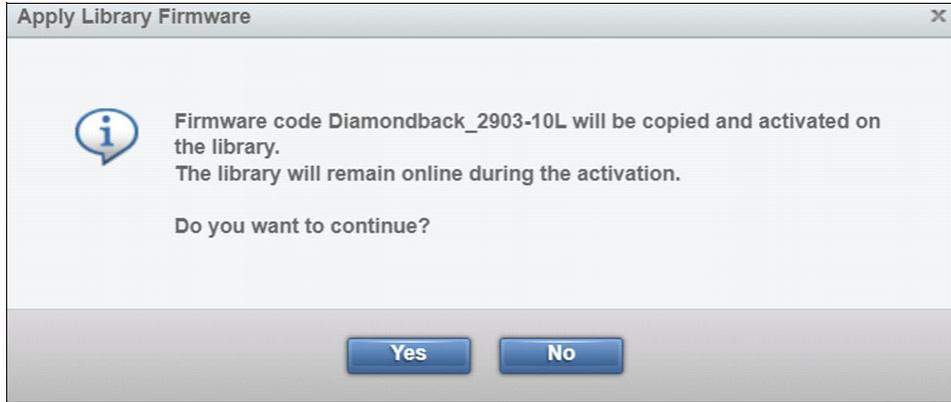

Figure 5-19 Firmware update confirmation
3. Once selected the Apply Library Firmware window opens. Confirm the correct file was selected and click **Yes** to continue, as shown in Figure 5-19.